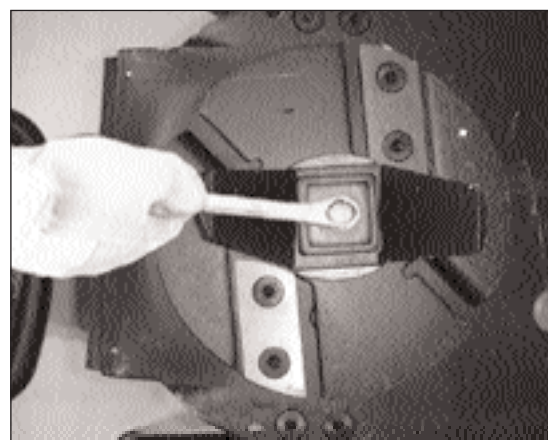

Fig. 14
2. Rotate the cutter base counter clockwise and place a piece of wood between the cutter base and cutting chamber wall so as to stop the cutting base rotating. (Fig. 14)